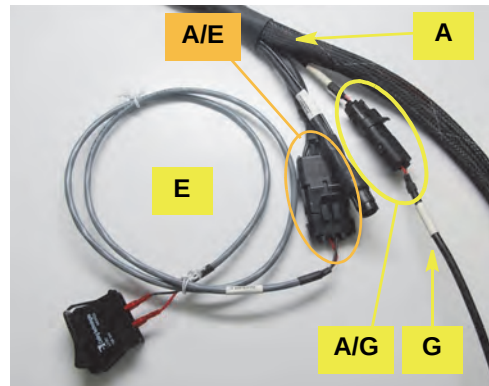

Figure 1c: Connecting the power switch and ‘Switch’ cable
- Connect power switch cable **E** to the 4-pin connector on interface cable **A** (Figure 1c).
- Connect switch cable **G**’s connector (labeled “FOOT” – see note following) between interface cable **A**’s connector labeled “SWITCH” and the MAX white cable’s connector labeled “SWITCH” (Figure 1c).